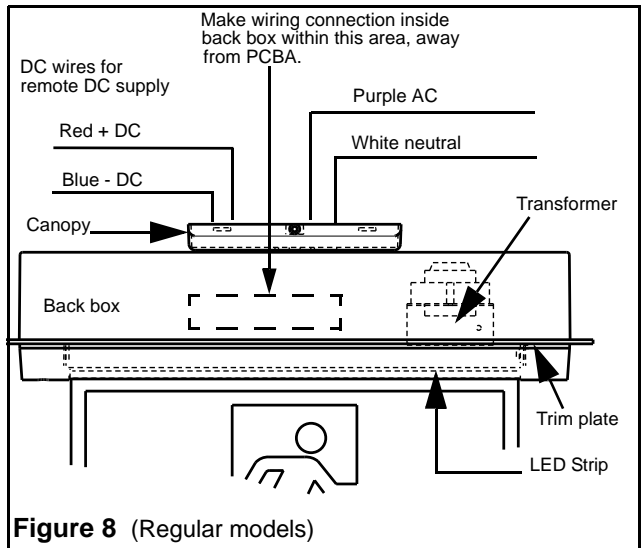
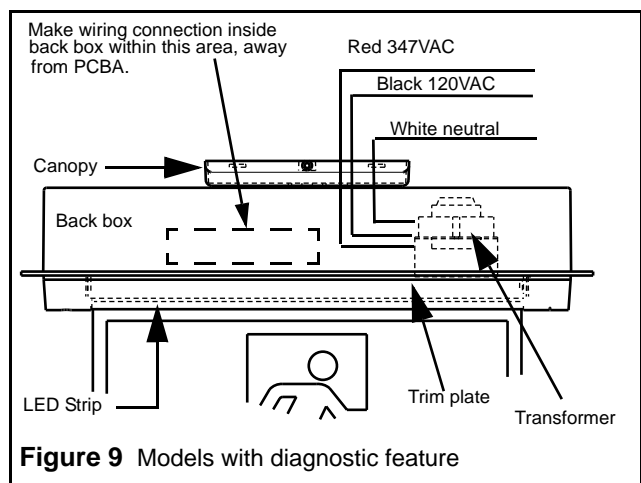

Figure 8 (Regular models)
Figure 9 Models with diagnostic feature
4. **Electrical connection (Figures 8,9)**
- b. Make the proper connections. The system can accept input voltages of 120 VAC to 347 VAC. For regular models connect the purple (line) and white (common) leads to the building utility (figure 8). For models with diagnostic feature connect the white (common) and black (120 VAC) or red (347 VAC) leads to the building utility (figure 9).